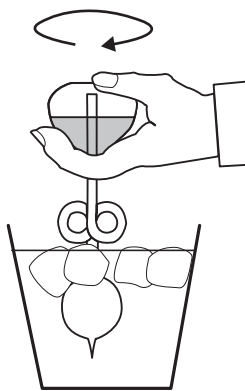

Figure 2.
3. Cup the hand boiler in your hand as shown in Figure 2 and immerse the lower bulb into the cup of ice water. Observe that the upper bulb becomes very cold as the boiler is set into the ice water.